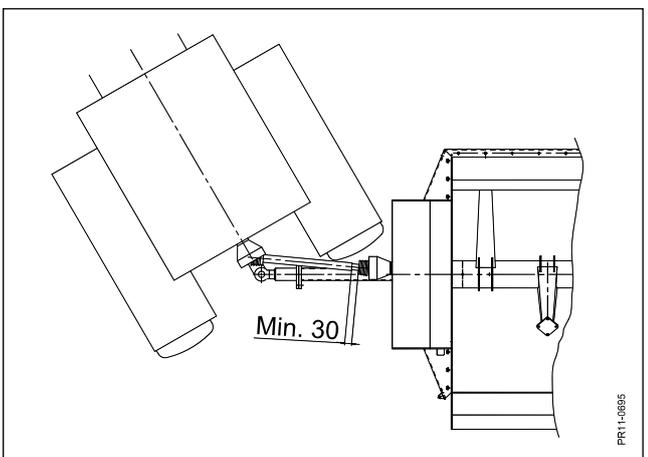

Fig. 4.4.2
**Fig. 4.4.2.** Please note that the input shaft on the Feeder is offset to the right, and must therefore be checked for minimum distance when the tractor turns right